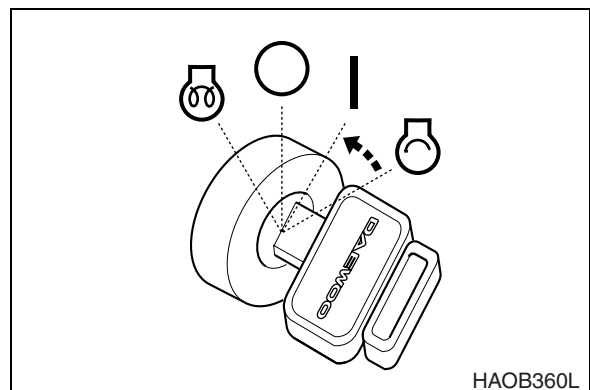

Figure 5
5. After engine has started, release key. Key will return to "I" (ON) position (Figure 5).